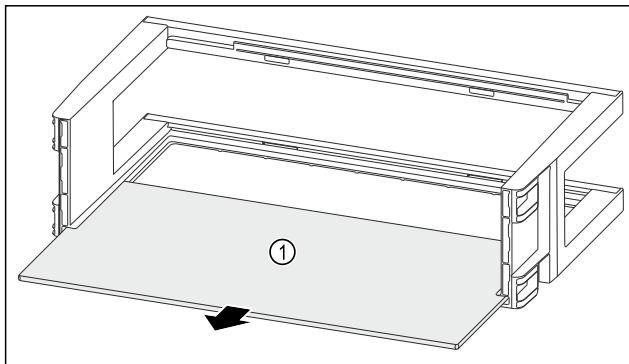

Fig. 121
- ▶ Remove the shelf Fig. 121 (1).